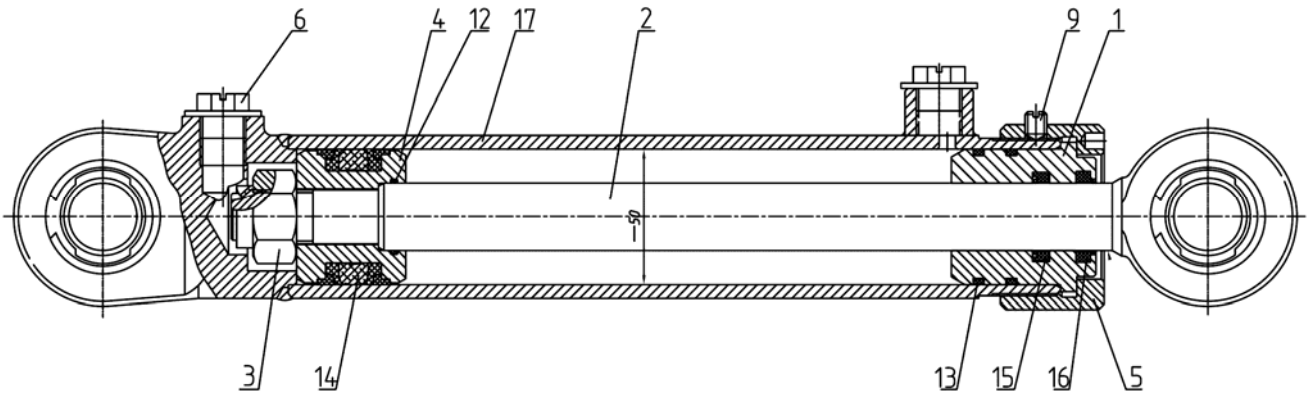

Figure 7.4 Hydraulic cylinder
- a) unscrew screw 9 (Figure 7.4);